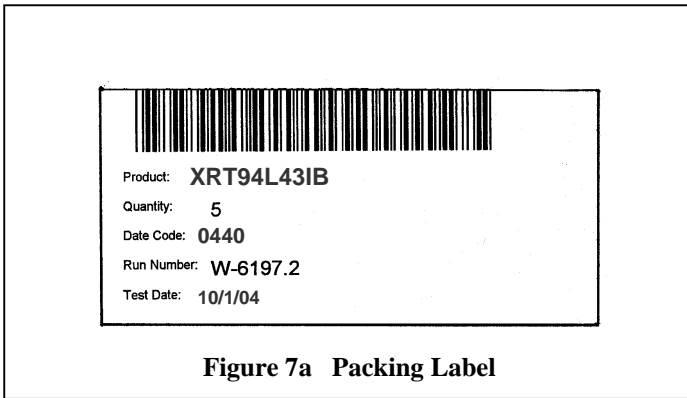

Figure 7a Packing Label
- Packing Label: Show Exar part number, quantity, date code, lot #, test date (Fig. 7a)